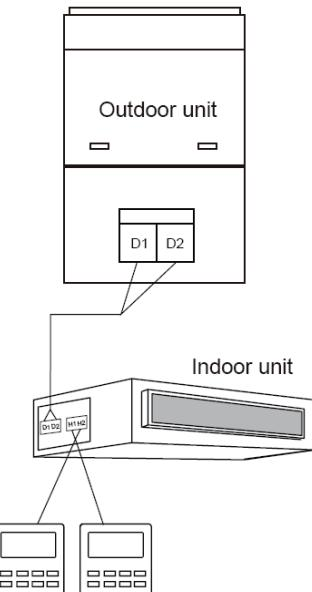

Fig. 3.4 Two wired controllers control one indoor unit
- (2) When two wired controllers control one indoor unit, the addresses of those two wired controllers should be different. Please refer to 3.2.3 parameter setting.
- (3) When two wired controllers control multiple indoor units, wired controller can connected to any one indoor unit, while the connected indoor unit should be the same series indoor unit. The addresses of those two wired controllers should be different. Please refer to 3.2.3 parameter setting. The total quantity of indoor unit controlled by wired controller can't be more than 16 sets and all connected indoor units must be within the same indoor unit network. Wire controller must set quantity of group control indoor units. Please refer to 3.2.3 Parameters Setting.
- (4) When one (or two) wired controller(s) control(s) multiple indoor units at the same time, the controlled indoor unit's setting should be the same.
- (5) Wiring of wired controller and indoor unit network must be according to one of the four wiring method as shown in fig 3.3-3.6. As for the connection method shown in fig 3.4 and 3.6, there should be only one master wired controller (address is 01) and one slave wired controller (address 02). The quantity of wired controller can't exceed two.